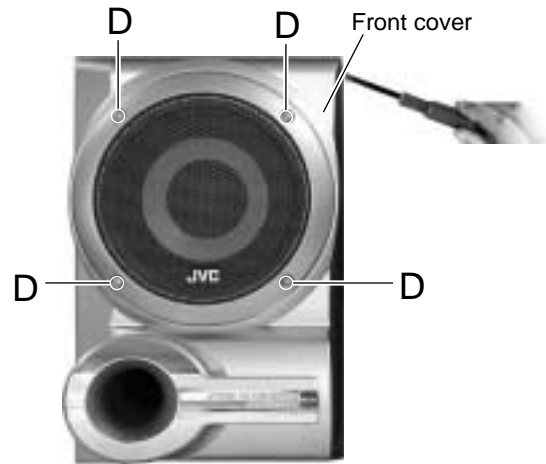

Fig.3
■ Removing the front cover (See Fig.3, 4)